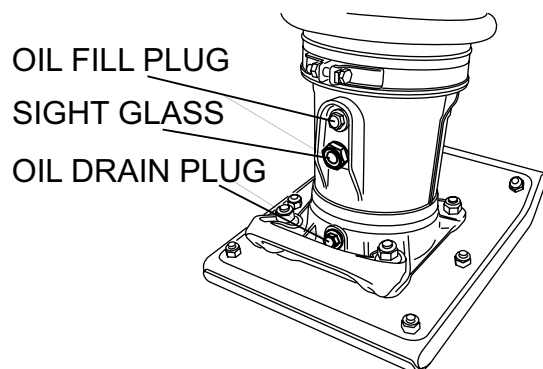

Figure 6. Foot Housing Sight Glass
1. Check the oil level through the oil level sight glass (Figure 6) at the rear of the tamper foot.
2. If oil is not visible, add 10W-30 SE, SF or higher grade motor oil into the oil fill plug opening (Figure 6). The bath contains approximately 0.37 qt. (0.35 liter)